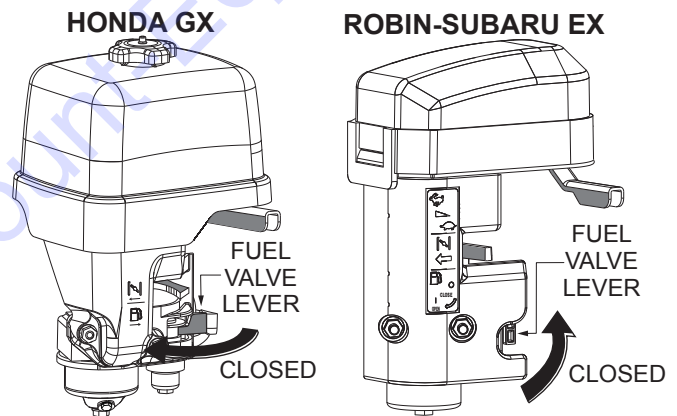

Figure 46. Fuel Valve Lever (Closed)
4. Place the fuel valve lever in the **CLOSED** position (Figure 46).